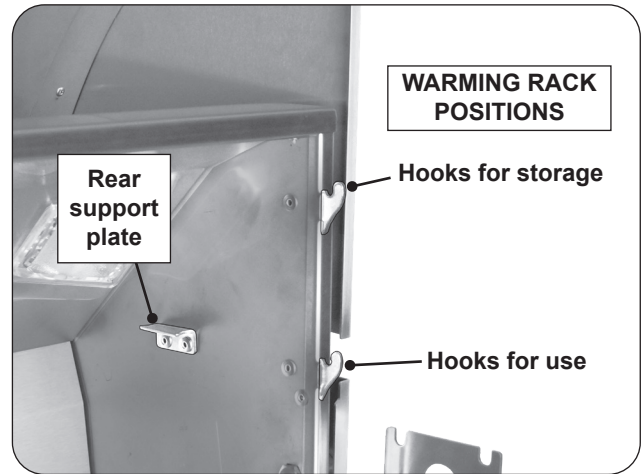
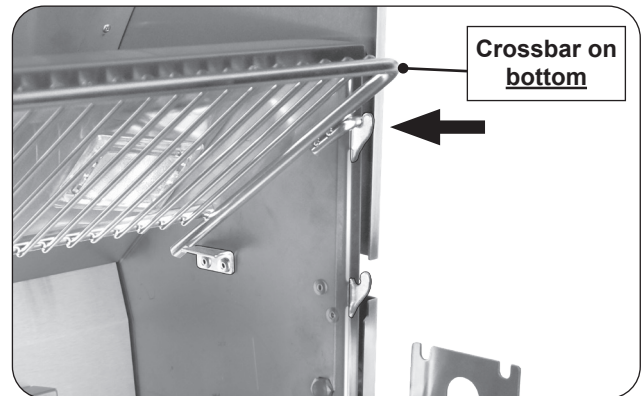

Fig. 34-1 Warming rack hooks
Fig. 34-3 Place warming rack in storage position
1. Locate the warming rack hooks and rear supports found on the upper portion of the grill oven (see Fig. 34-1).
Use the top hooks for storage (see Fig. 34-1 and Fig. 34-3).